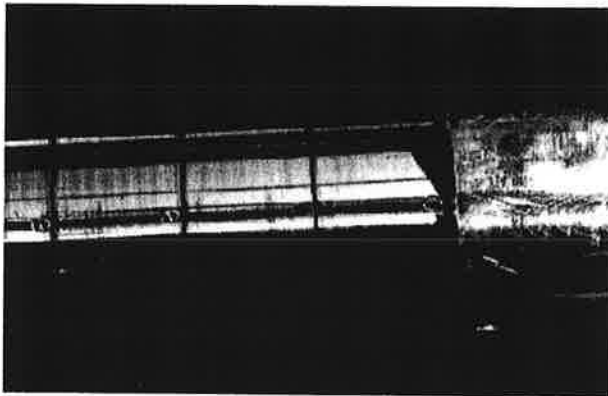

Figure 17. Zero Indicated on Body Tube
- E. Hold body tube of drilling machine and rotate feed tube counterclockwise until feed tube is at zero mark on body tube. See Figure 17. Drill is completely retracted.